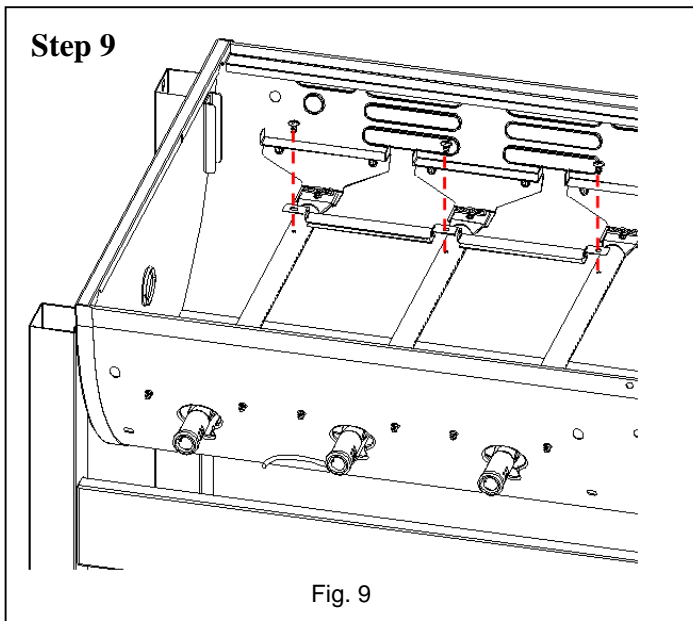

Fig. 9
Procedure: Attach (2) Cross-over Tubes to the Burners using (3) M4x8 tapping screws as shown as Fig. 9.